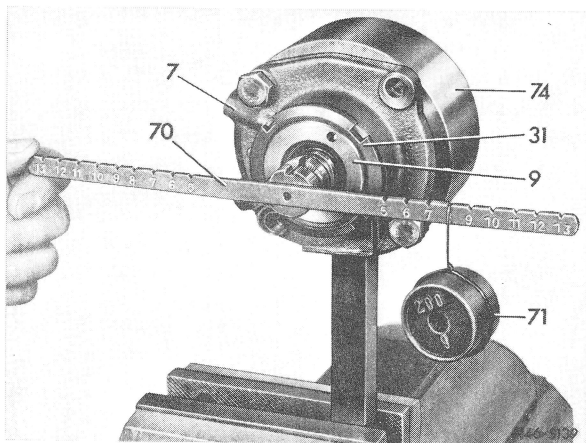

Fig. 7
7 Measure friction torque of steering worm in bearing cap (sealing point only), by positioning measuring device (70) on splining of steering worm. Friction torque should be 12 to 15 Ncm (1.2 to 1.5 kpcm). Then tighten bearing insert (9) with pin spanner until an additional 5–7 Ncm (0.5–0.7 kpcm) friction torque are measured. Then tighten slot nut to 120–140 Nm (12–14 kpm) and check friction torque once again (Fig. 7).